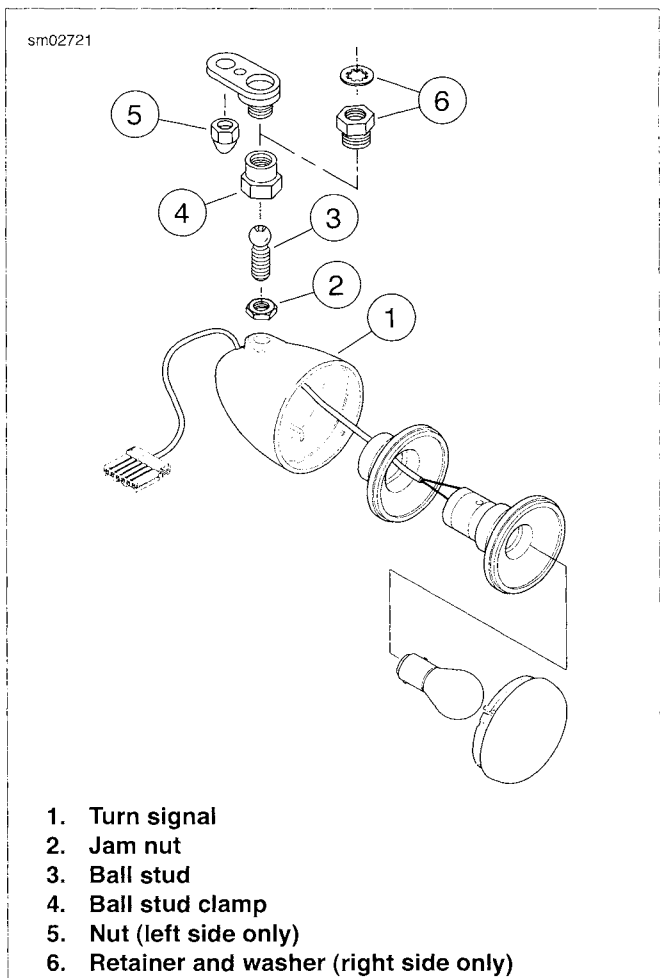

Figure 7-49. Front Turn Signals: FXST, FXCWC, FXSTC, FLSTF/B, FLSTSB
- a. See Figure 7-49. On right side, hold retainer (6) and loosen ball stud clamp (4) to remove turn signal.
- b. On left side, remove nut (5) from mirror, loosen jam nut (2) and remove ball stud clamp (4) to detach turn signal.